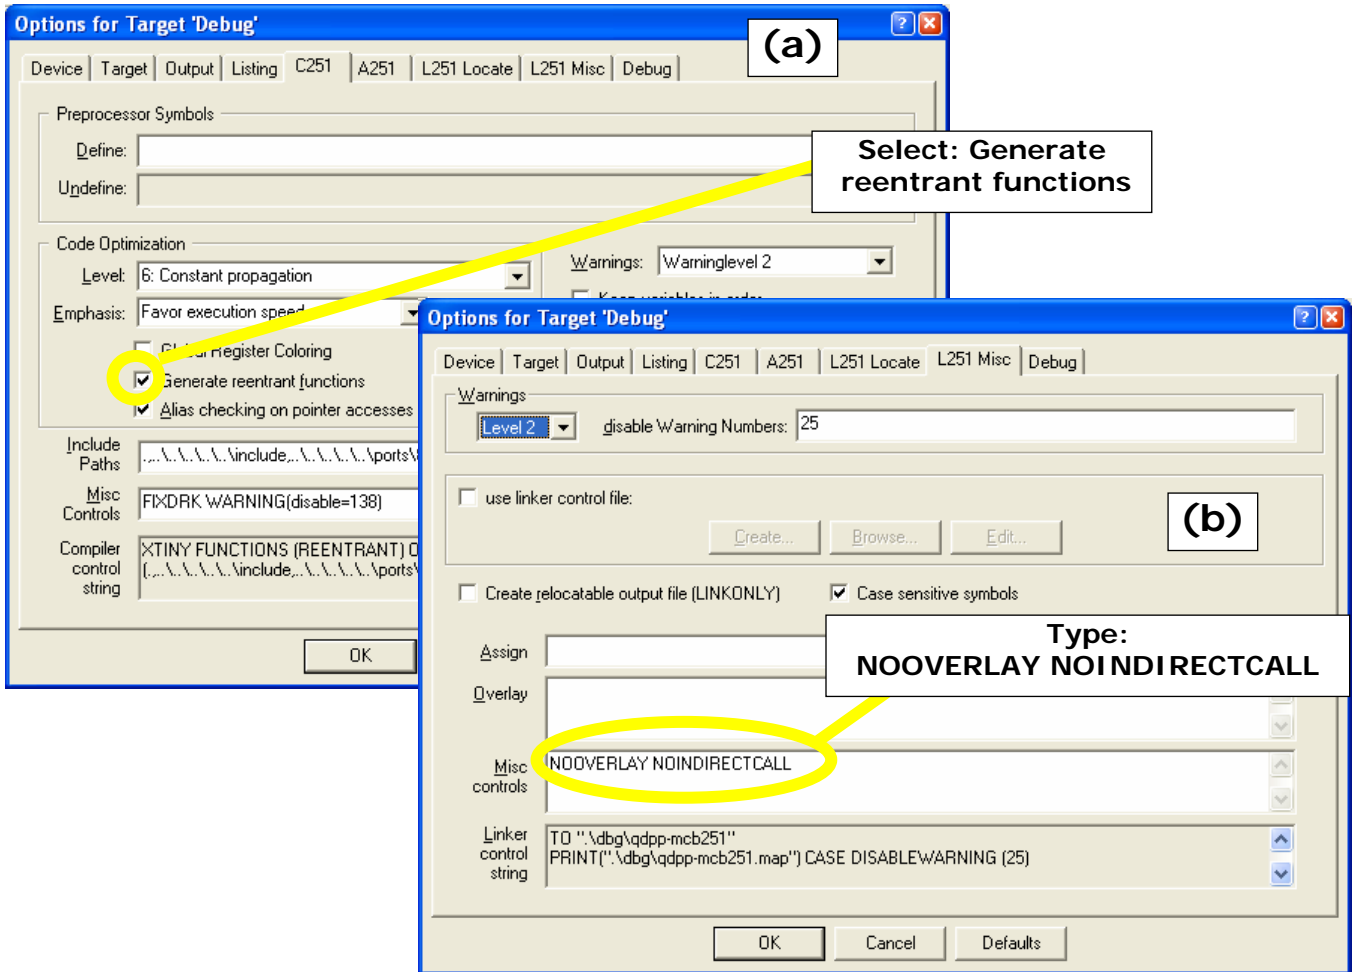

Figure 3 C251 (a) and L251 Misc (b) tabs of the project options dialog box.
5. C251 tab: Code Optimization 6: Constant propagation, **Generate reentrant functions**, Include Paths: . . . . \\ . . . . \\ . . . . \\ include, . . . . \\ . . . . \\ . . . . \\ ports\80251\vanilla\keil, Misc Controls: FIXDRK WARNING(disable=138) (see Figure 3(a))
8. L251 Misc tab: Misc controls: NOOVERLAY (see Figure 3(b))